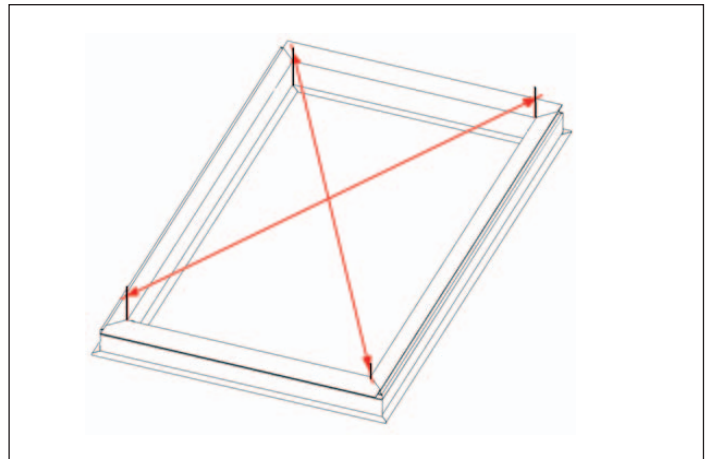

Fig. 81 Then check the diagonals and realign, if necessary
3. Check the diagonals and realign, if necessary (Fig. 81)